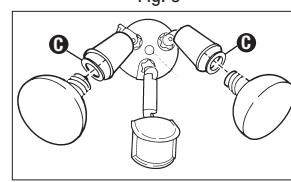

Fig. 6
- Insert lampholder gaskets (C) into lampholder assembly, tightly against lampholder, and screw bulbs into each lampholder (Fig. 6). (Do not overtighten bulbs.)